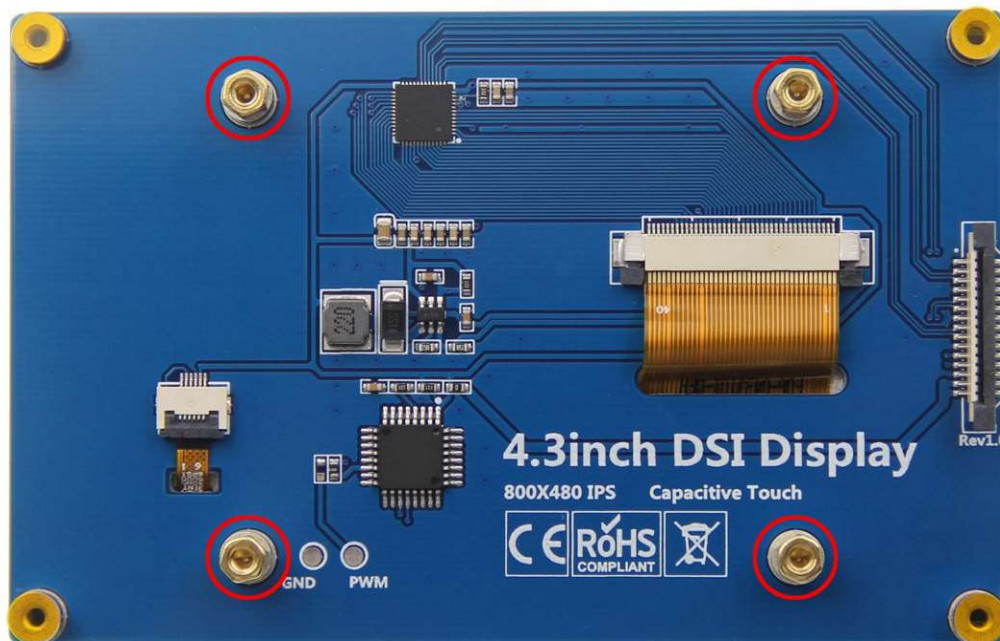
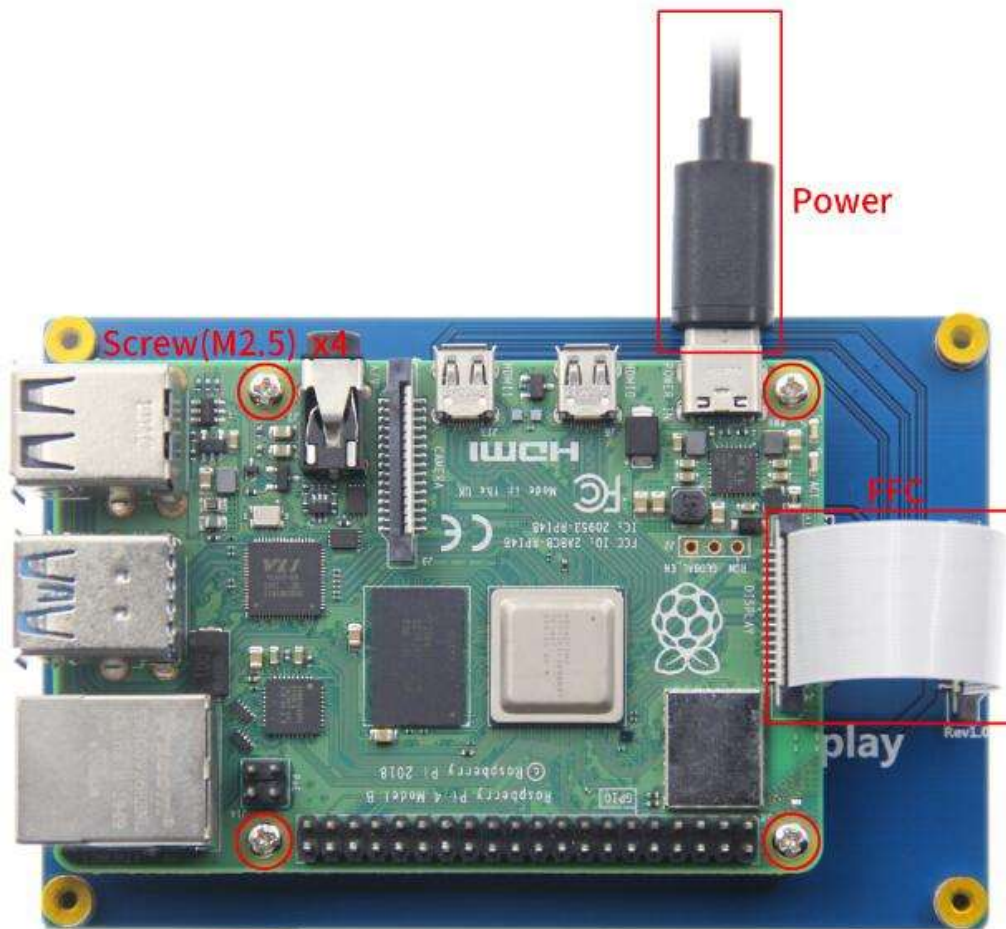

Figure 3
Figure 4
5) Install Raspberry Pi into the display module. First, install 4 copper columns to the positioning column (as shown in **Figure 3**), then use 4 screws (M2.5) to fix the Raspberry Pi to the copper column, then connect the DISPLAY module to the Raspberry Pi Display interface (J4 interface) through FPC flexible cable (5cm) (as shown in **Figure 4**), and finally connect the power cord to the Raspberry Pi;
- 2) Figure 4 shows the installation of Raspberry Pi 4. The installation method of Raspberry Pi 3 is basically the same as that of Raspberry Pi 4. The only difference is that the power cord connected is different. The Raspberry Pi 4 uses a Type-C cable and the Raspberry Pi 3 uses a Micro USB cable.